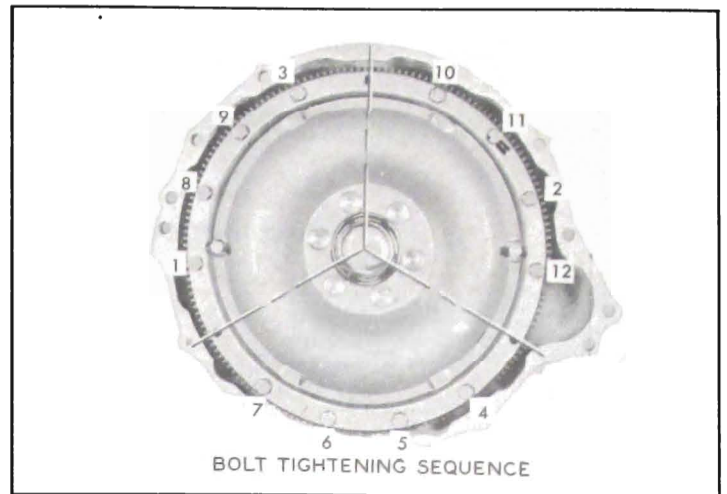

Figure 5-107—Bolt Tightening Sequence
20. Install bolts in all but the three driving bolt holes, insert the shank of a $1\frac{1}{32}$ " drill through one bolt hole to align all holes, then tighten bolts to approximately 5 ft. lbs. torque in numerical sequence shown in figure 5-107. Finally tighten bolts in same sequence to 25-30 ft. lbs. torque.